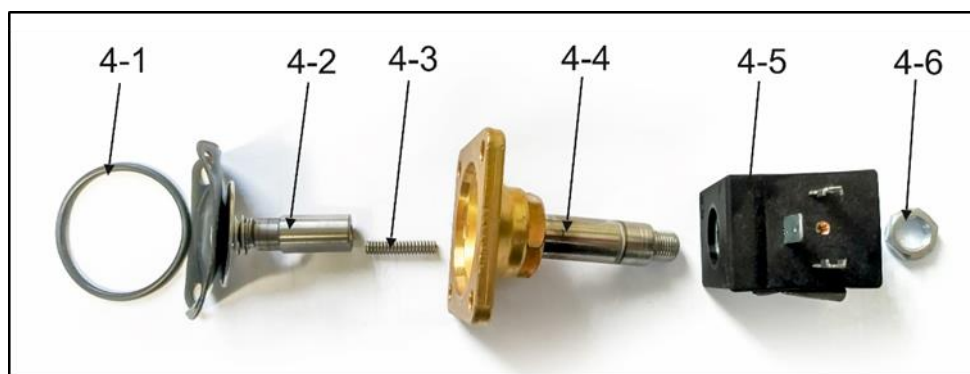

Fig. 27: Solenoid valve assembly
- Unscrew the 1 screw from the valve connector (1).
- Disconnect the valve connector (1).
- Unscrew the 4 screws (2).
- Remove the solenoid valve (3).
- Remove the valve seal (4-1) from the body. (Fig. 27)
- Install the solenoid valve (Fig. 27).
- Install the new solenoid valve using the 4 screws (2) and use a thread locking adhesive on the threads of the screws (such as Loctite 243).